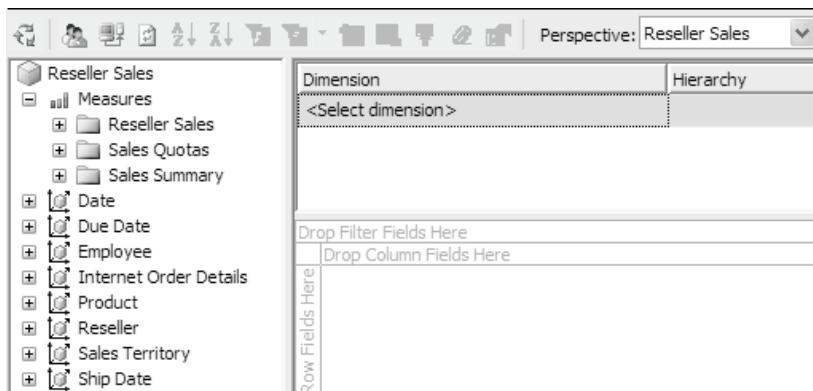

Figure 12.27 A perspective filters out the objects that are not included in the perspective.
- Expand the Perspective dropdown (Figure 12.27). Observe that besides the SOS OLAP default perspective, the Perspectives dropdown lists the Reseller Sales, Internet Sales, and Summary Sales perspectives we've just defined.